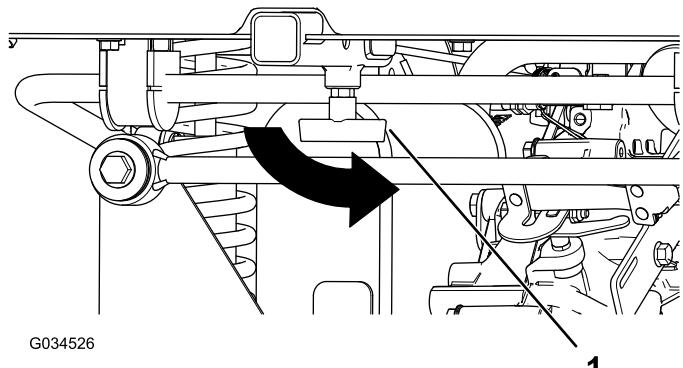

Figure 20
4. Tighten the "T" handle by rotating it counterclockwise (Figure 20).